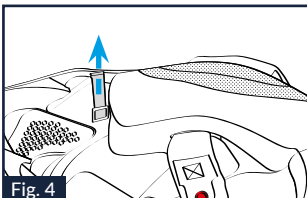

Fig. 4
5.2. Gently pull the red strap in the front area of the pad of the left cheek pad to release the safety lever on its back (Fig. 4).
12.5. Press the safety lever upwards in line with the fastening area of the red strap to turn it towards the cheek pad padding until it reaches its closing position. (Fig. 4).